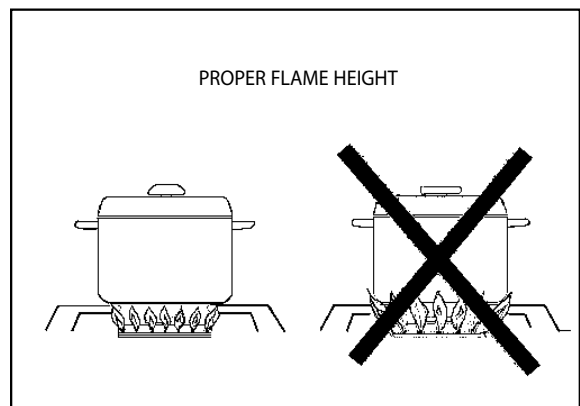

Fig. 03
- For safety reasons the flame must never extend beyond the bottom of the cooking utensil. Never allow flames to curl up the side of the pan (see Fig. 03). This will discolor or damage the utensil.